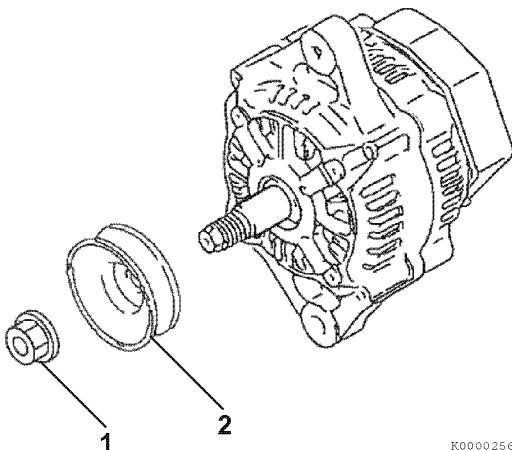

Figure 11-18
11. Reassemble the pulley (Figure 11-18, (2)) and nut (Figure 11-18, (1)) to the shaft of the rotor assembly. Tighten the nut.